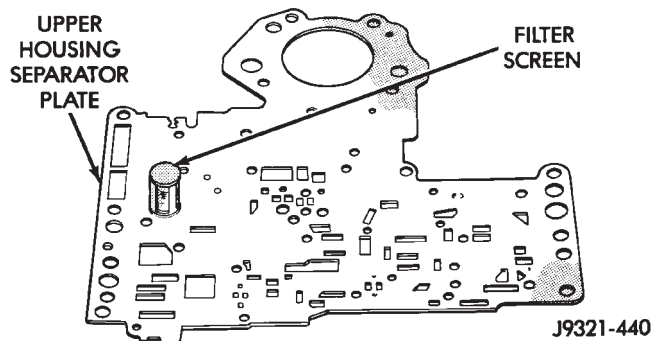

Fig. 75 Separator Plate Filter Screen Installation
- (2) Install filter screen in upper housing separator plate (Fig. 75).